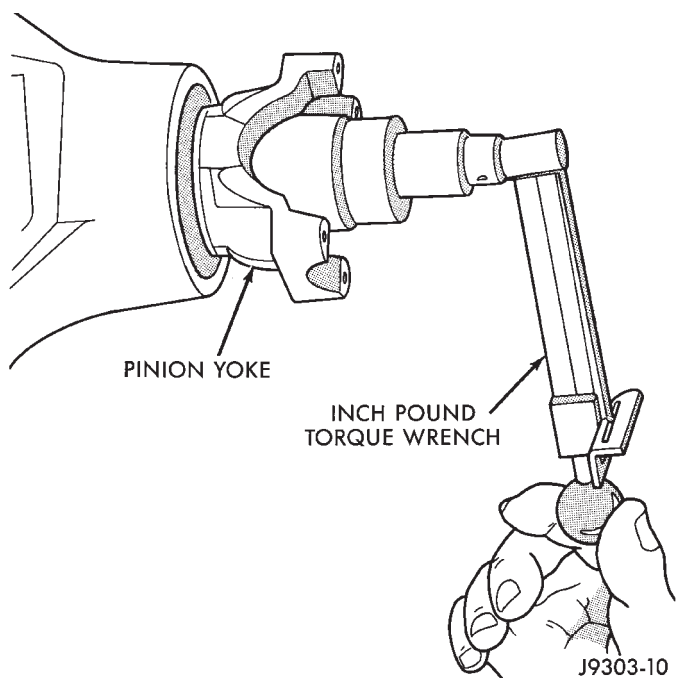

Fig. 29 Check Pinion Gear Torque
(9) Check bearing rotating torque with an inch pound torque wrench (Fig. 29). If torque to rotate is within specification, remove old nut and install new nut. The torque necessary to rotate the pinion gear should be;